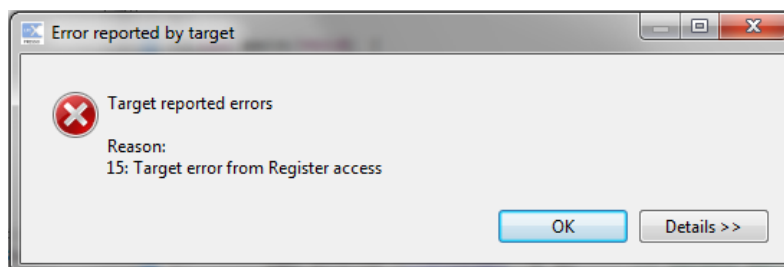

Figure 13 – LPCXpresso IDE Error Message
- When starting a newly downloaded application, the debugger will lose connection with the processor. An error message like illustrated in Figure 13 is typical in this case. The program starts off in *active* mode but as soon as *deep sleep*, *power down* or *deep power down* is entered an error message like below will be displayed. The problem is that it becomes impossible to debug the processor after this point. It is not possible to set break point or stop the processor. It is also not possible to read variable values to help debug the application.
- 2) Download and start application (**LCD_ADC_temp_wdt-wakeup**). Wait for error message as in Figure 13. That is an indication that the LPC11U37 has entered *power down* mode.